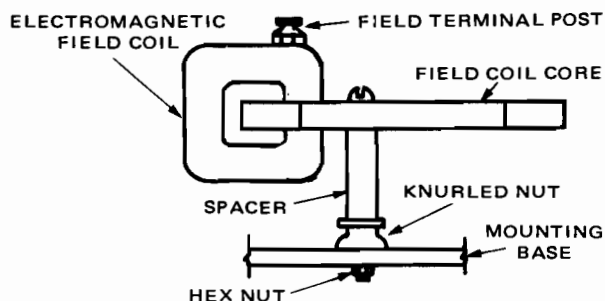

Fig. 7-3-2
3. Remove two permanent magnets from holders. Turn magnet holder pieces inward toward armature frame. Attach electromagnetic field winding in two holes under magnet holders. Assembled views of electromagnet attachment are shown in Figs. 7-3-2 and 7-3-3.